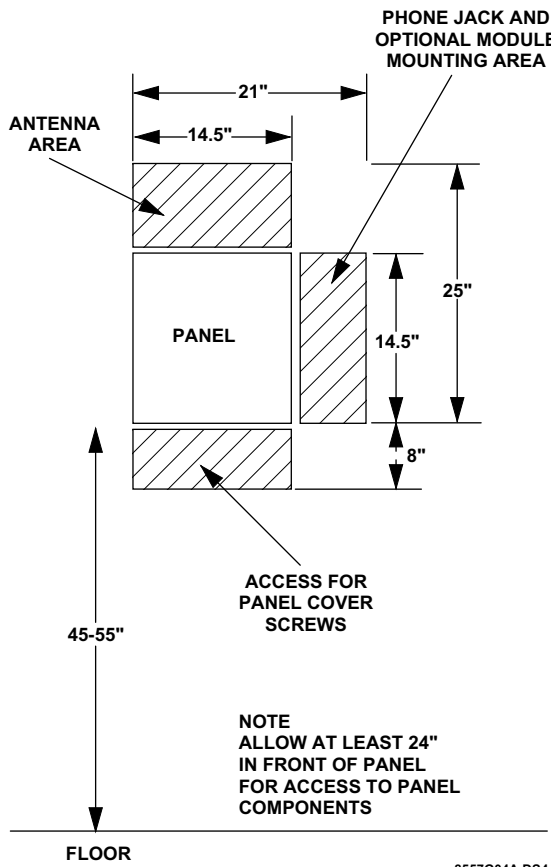

Figure 1 Determining Panel Location
- Mount the panel at a comfortable working height (about 45 to 55 inches from the floor to the bottom of the panel, as shown in figure 1).
- Allow a minimum of 10.5 inches above the panel for the antennas, as shown in figure 1.